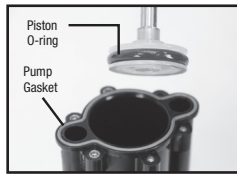

Figure 4
- 4) Remove piston assembly (fig.4).